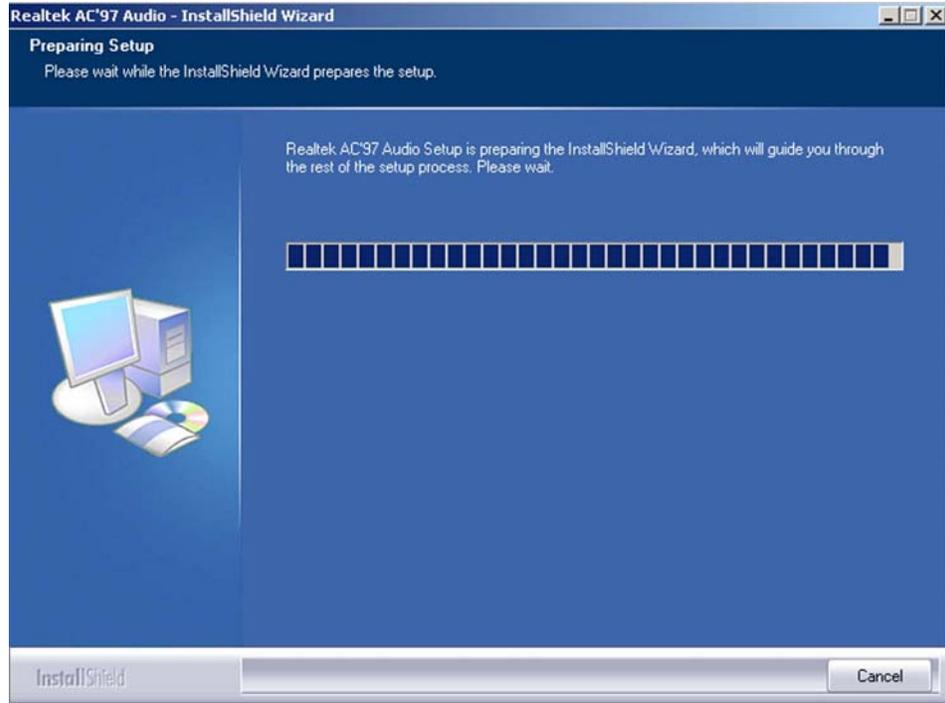

Figure 6-16: Audio Driver Setup Preparation
Step 8: The RealTek Audio Setup prepares the install shield to guide you through the rest of the setup process. See **Figure 6-16**.